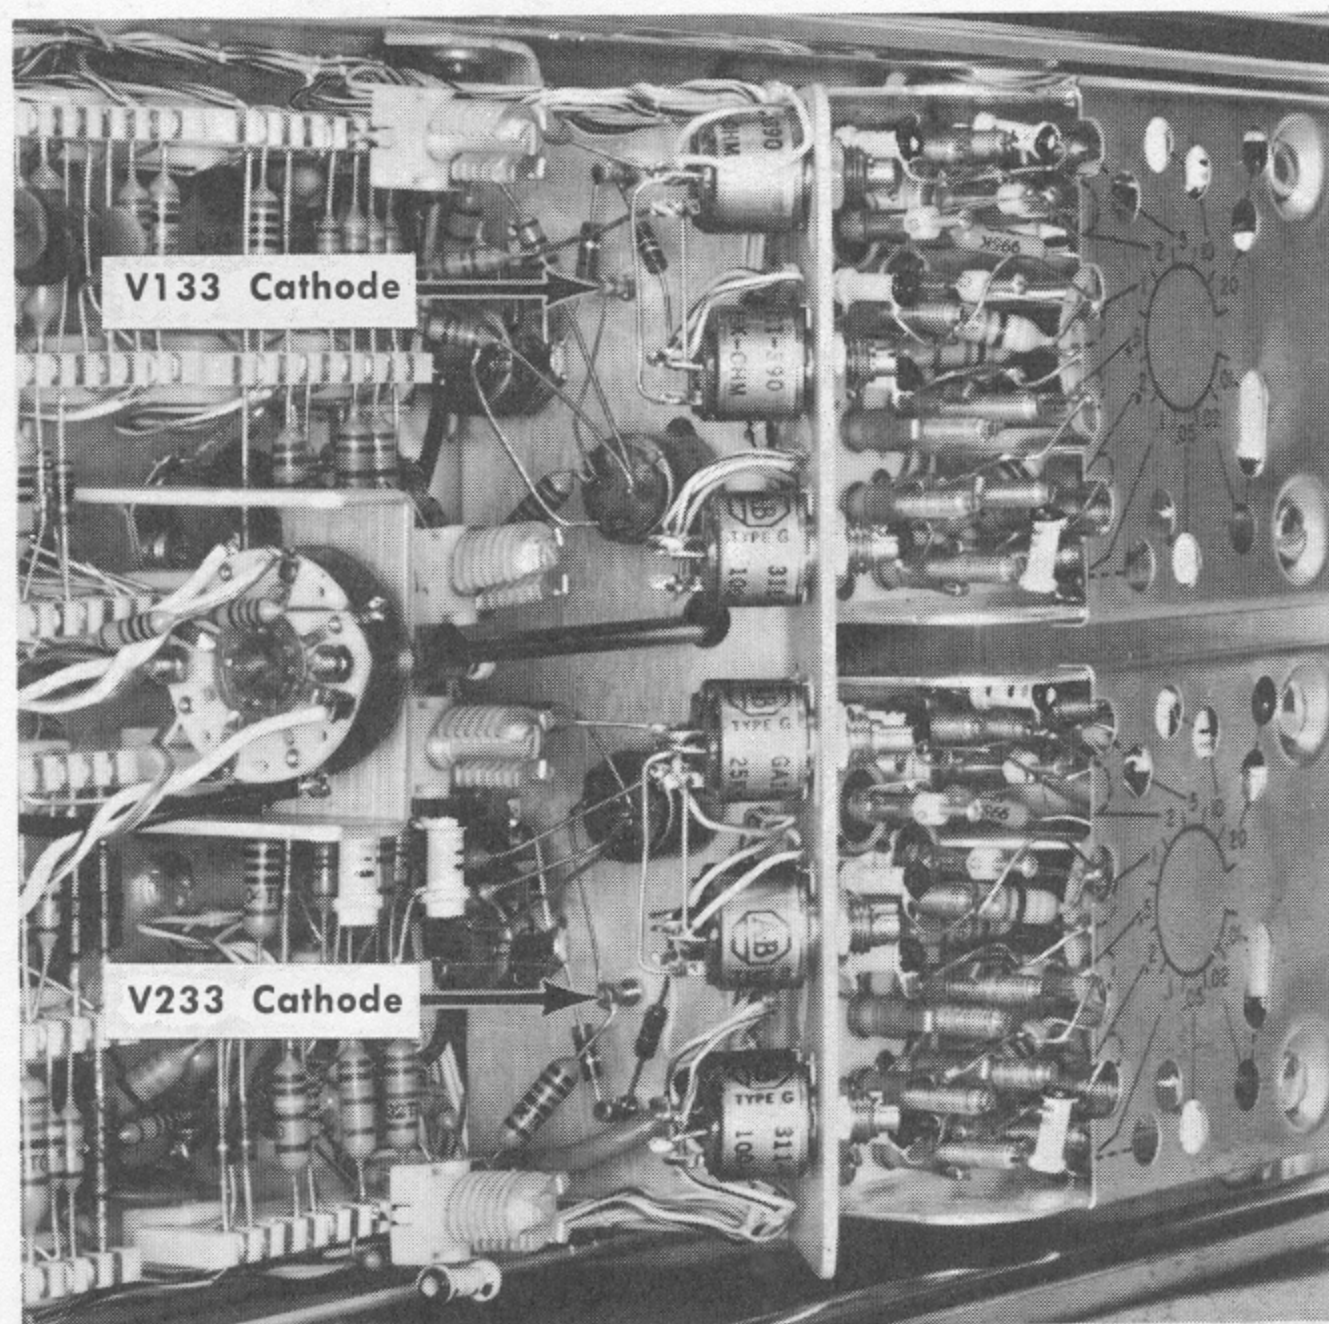

Fig. 4-1. Voltmeter connection points.
- a. Set the dc voltmeter for at least +1.5 volts full scale and connect it to the V133 (V233) cathode bus shown in Fig. 4-1.